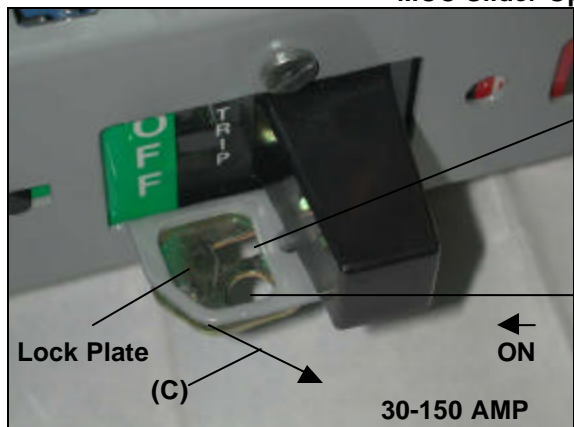

Fig. 36
C. Padlocking (See Figures 36, & 37)